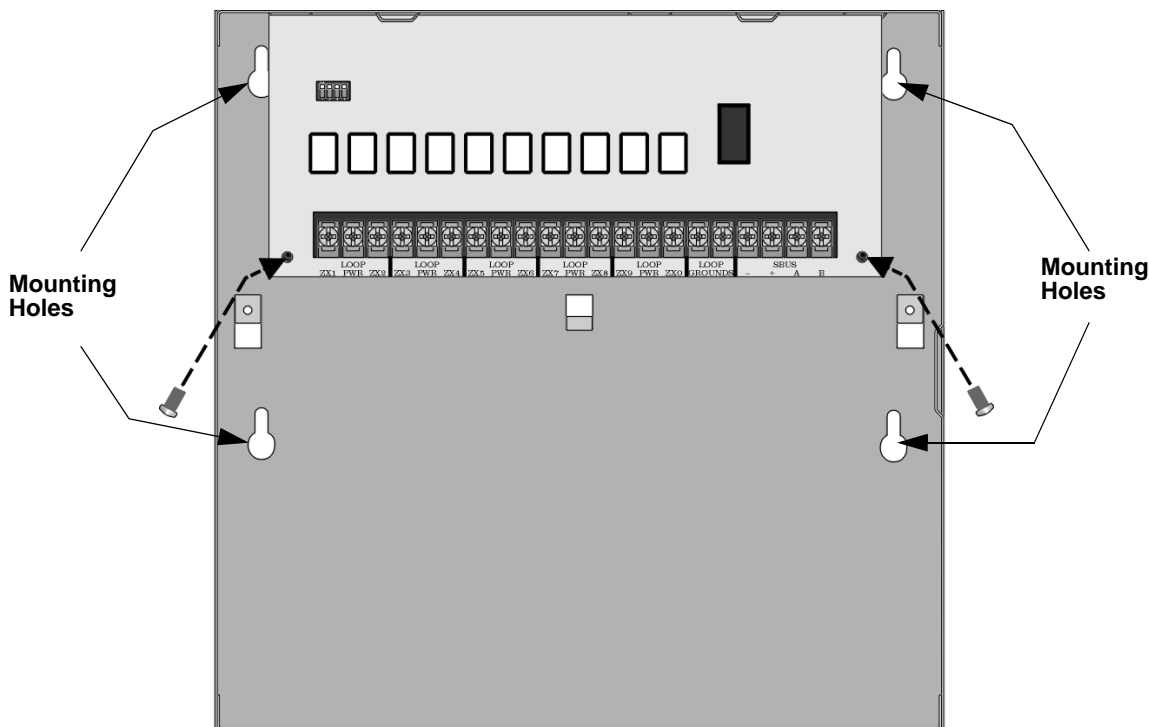

Figure 3-23 Model SK-5217 Remote Installation
1. Mount the remote cabinet using the cabinet mounting holes. See Figure 3-23.
3. Mount the SK-5217 onto the standoffs and bracket located in the cabinet. See Figure 3-23.